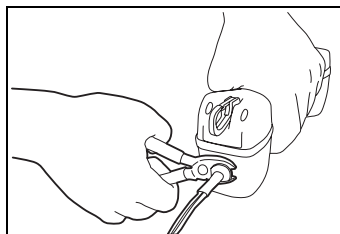

Figure 1. Removing the Strain Relief
- 1 Pull back the rubber end of the strain relief, on the outside of the housing at the base (Figure 1), and cut the line cord strain relief with wire cutters.
*Make sure the line cord strain relief lies horizontally (Figure 1). The four dots on the flat portion of the line cord should be on the top or underneath if the cord is horizontal.*